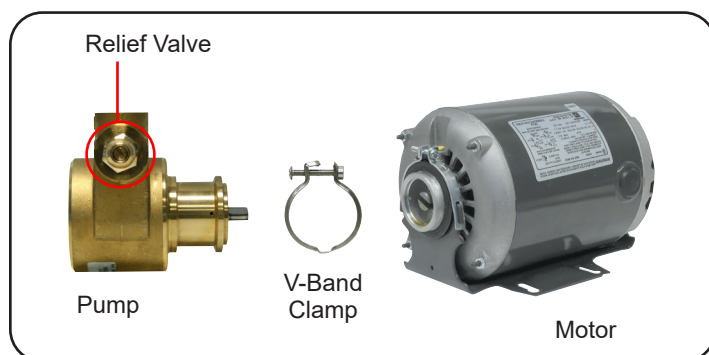

figure 6
3. Remove the V-Band Clamp. **(Fig. 6)**
3. Turn the slotted screw counter clockwise 1 1/4 turn **(Fig. 6)**